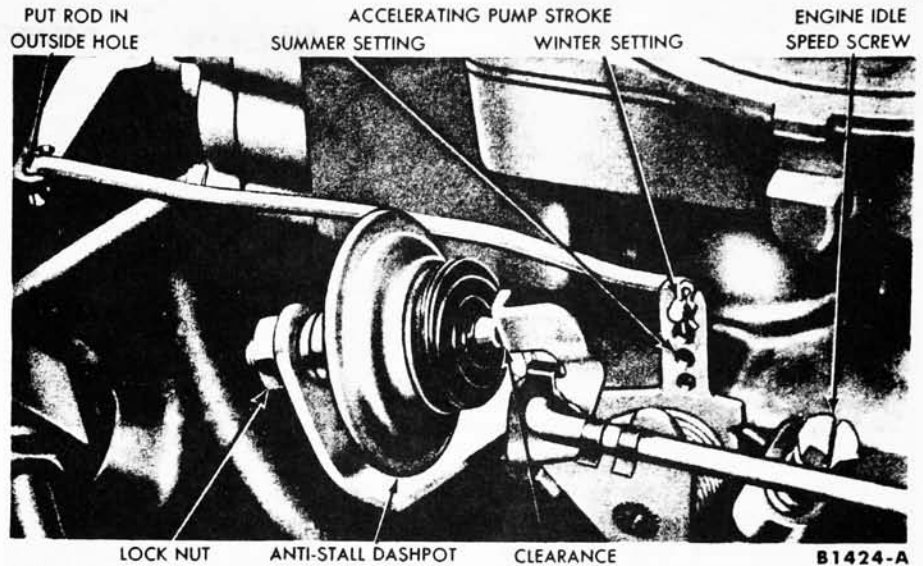

FIG. 18—Carburetor Idle Adjustments
20. Adjust Accelerator Pump Link to Seasonal Position. The over-travel lever has four holes and the accelerating pump link has two holes to control the accelerating pump stroke for different engine applications (Fig. 18). Install the accelerating pump operating rod in the No. 4 (top) hole for winter operation or in the No. 2 hole for summer operation in the over-travel lever. Install the accelerating pump operating rod in the outside hole in the accelerating pump link for all climatic conditions.
23. Check And Adjust Anti-Stall Dashpot Clearance. Loosen the anti-stall dashpot lock nut (Fig. 18).